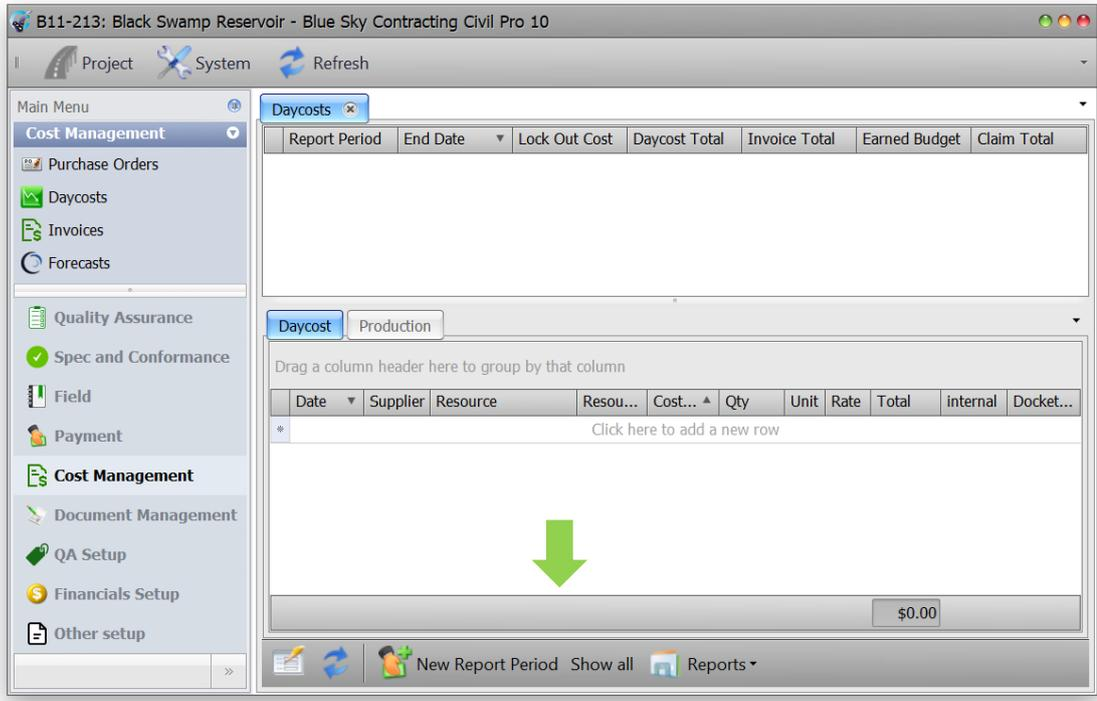

Figure 58 Daycost screen – new report period button
2. Once in the Daycosts Register click on *New Report Period* at the bottom of the screen (Figure 58)